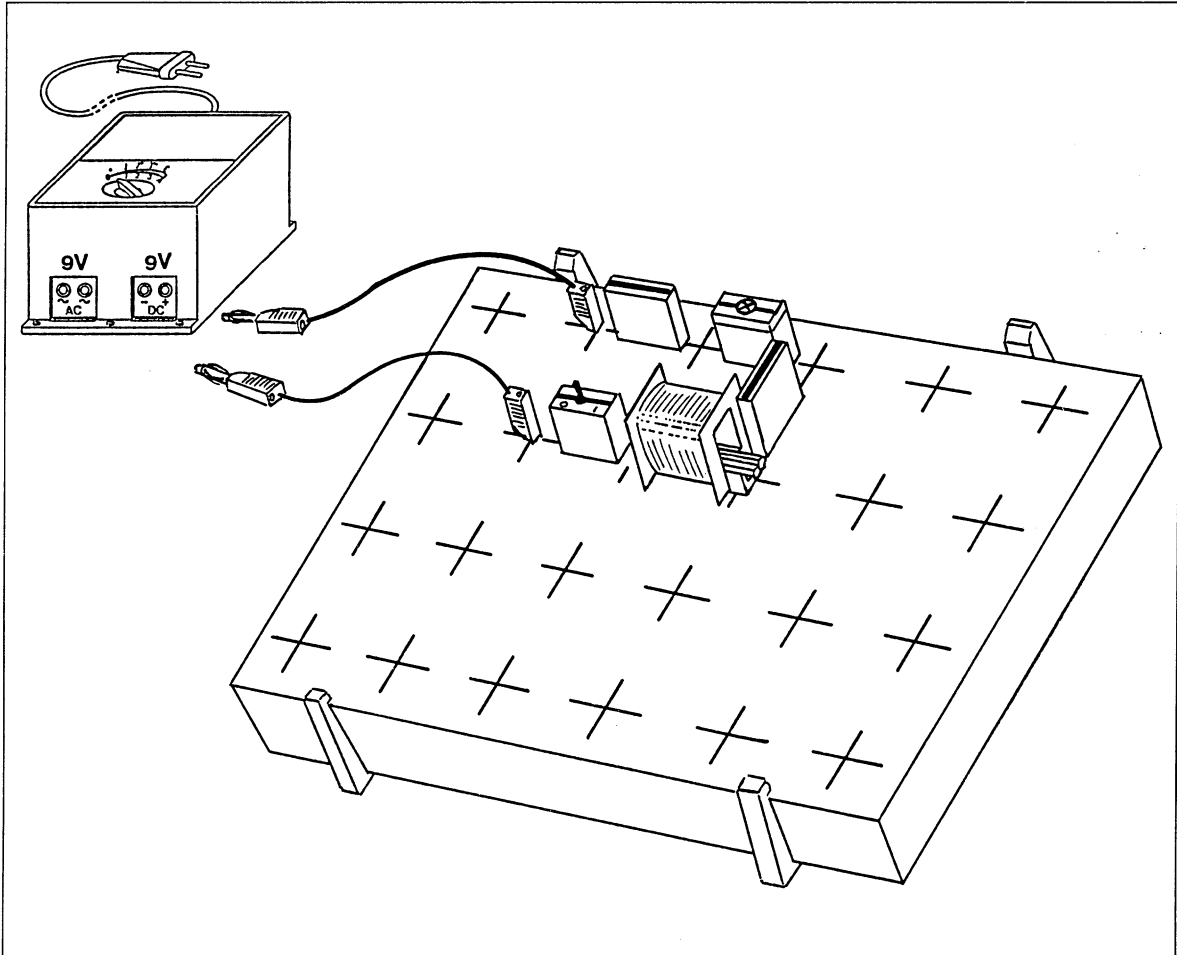
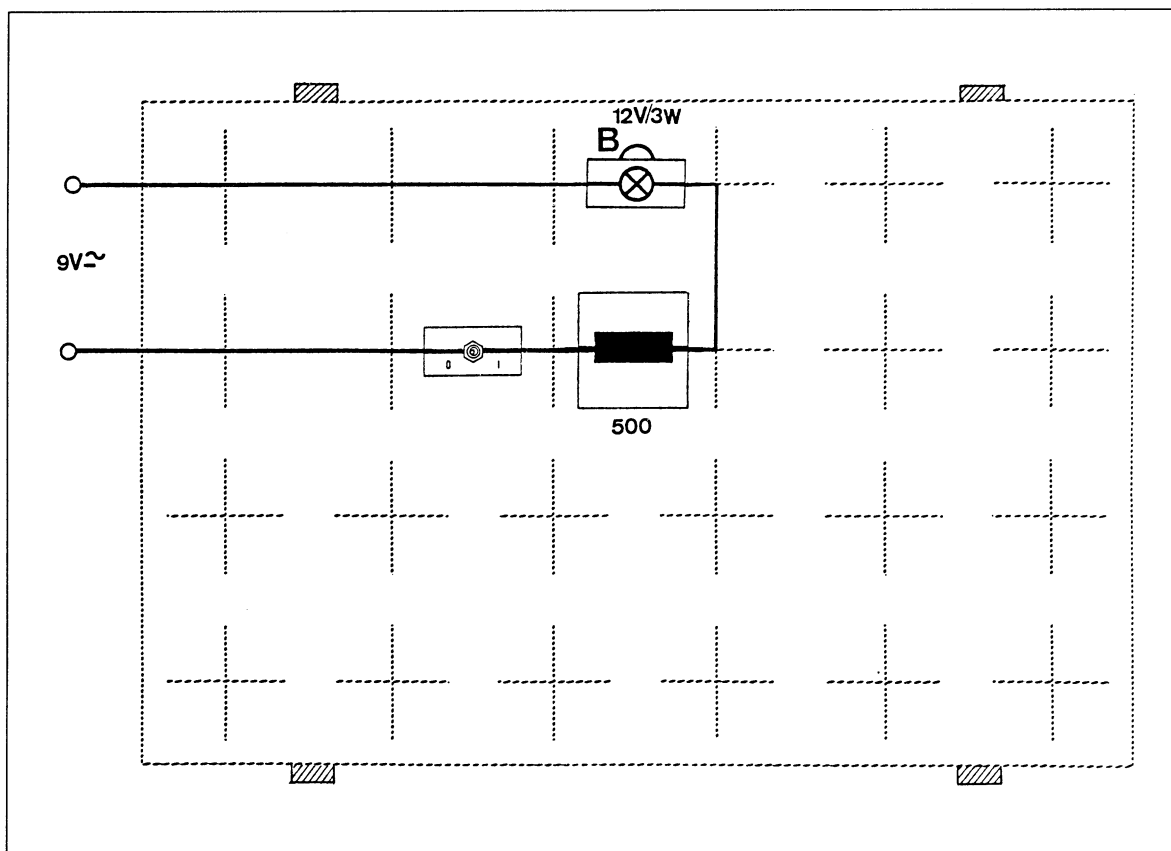

Fig. 1 Experiment setup (side view): model of a moving-iron instrument
Fig. 2 Experiment setup from Fig. 1 (top view)
► Fig. 1
- Assemble the circuit as shown in Fig. 1 and Fig. 2. Make sure the switch is in the 0 position.